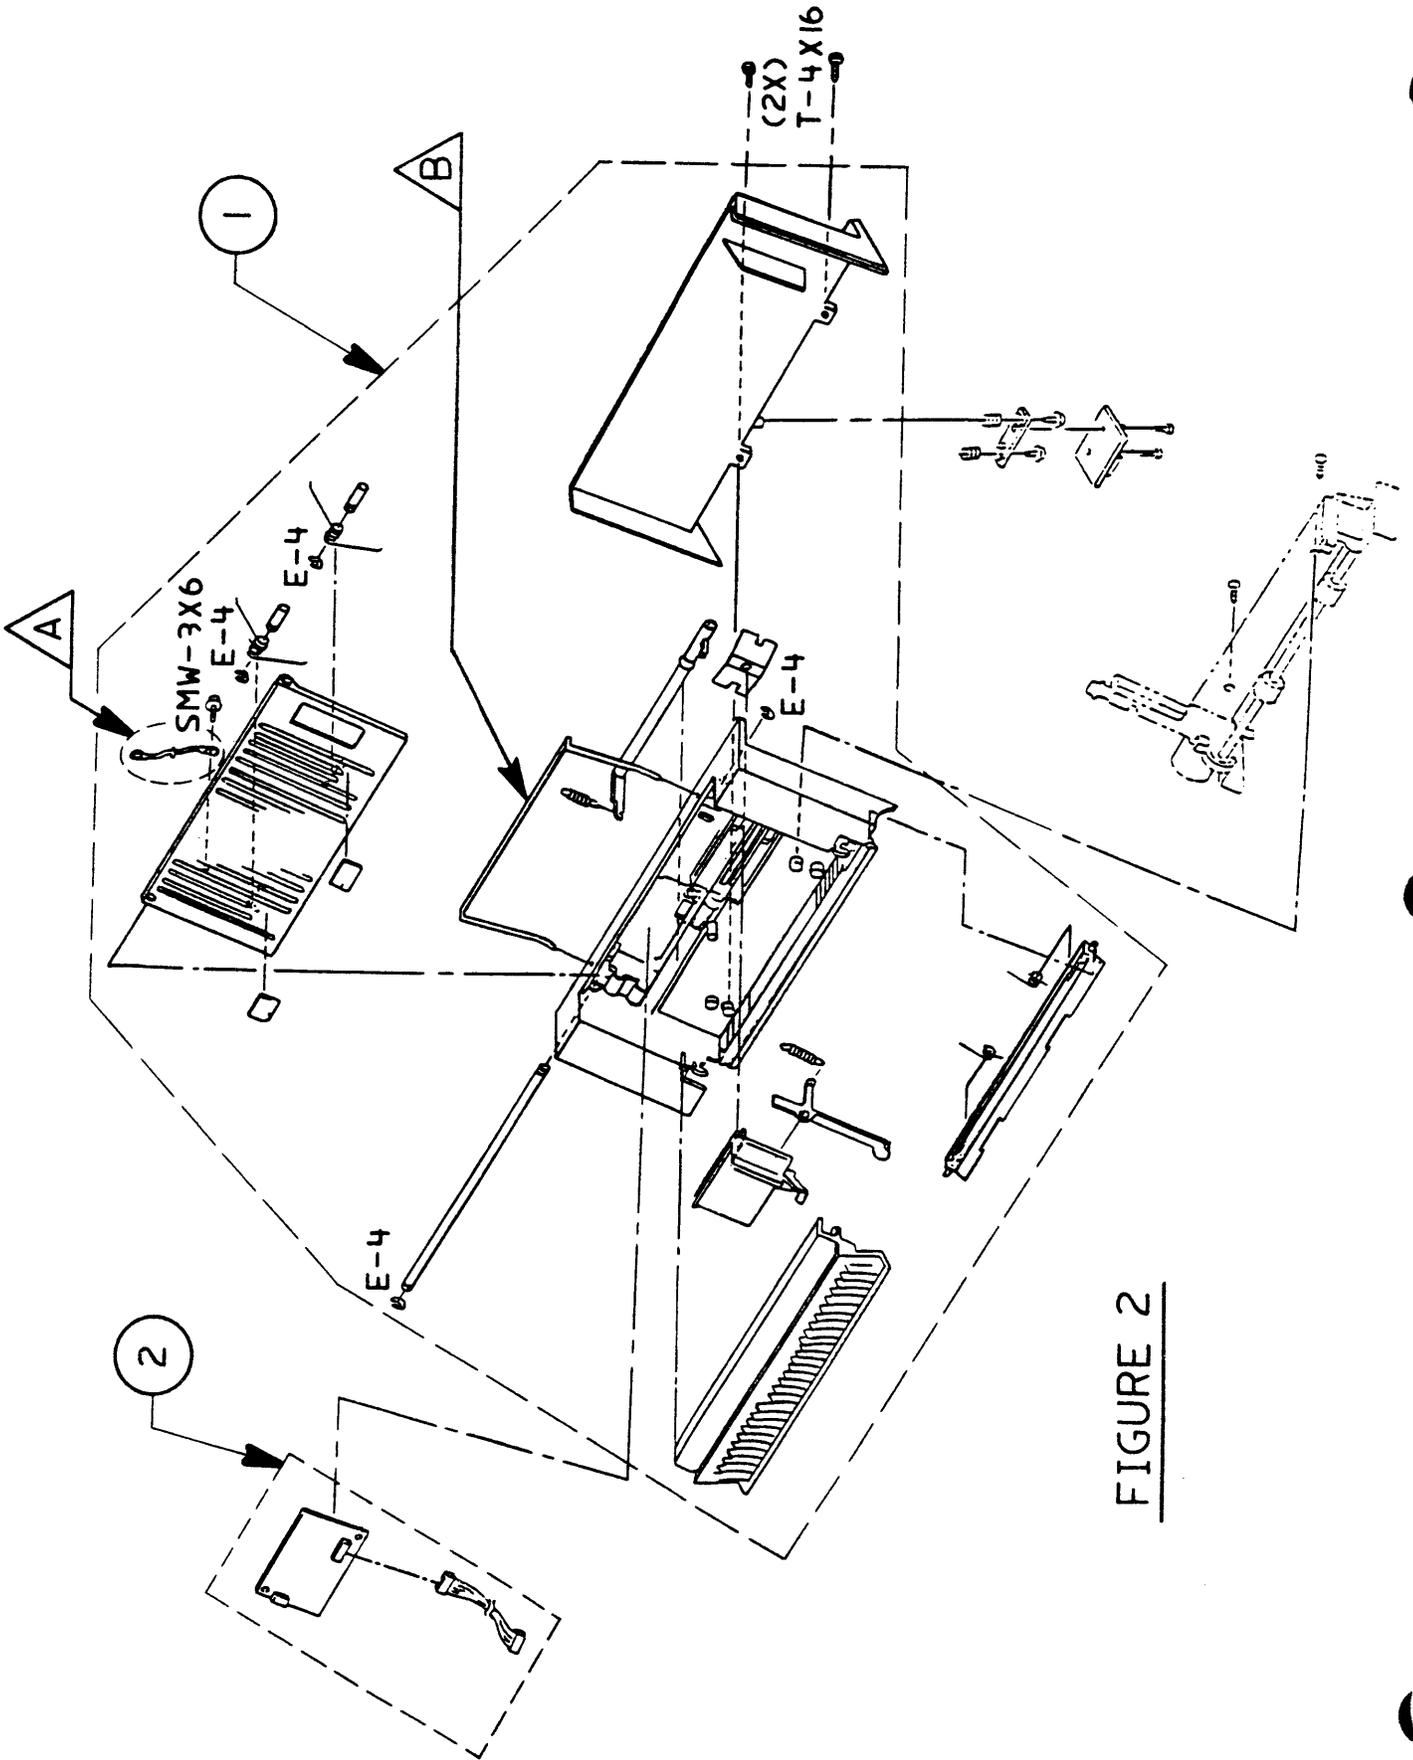

FIGURE 2
- IPL.5 Housing & PCB Assembly (Figure 2)
076-0241	SheetFeeder Housing, Platinum (See Figure 2, Item 1.)
□ HOUSING AND PCB (Figure 2)